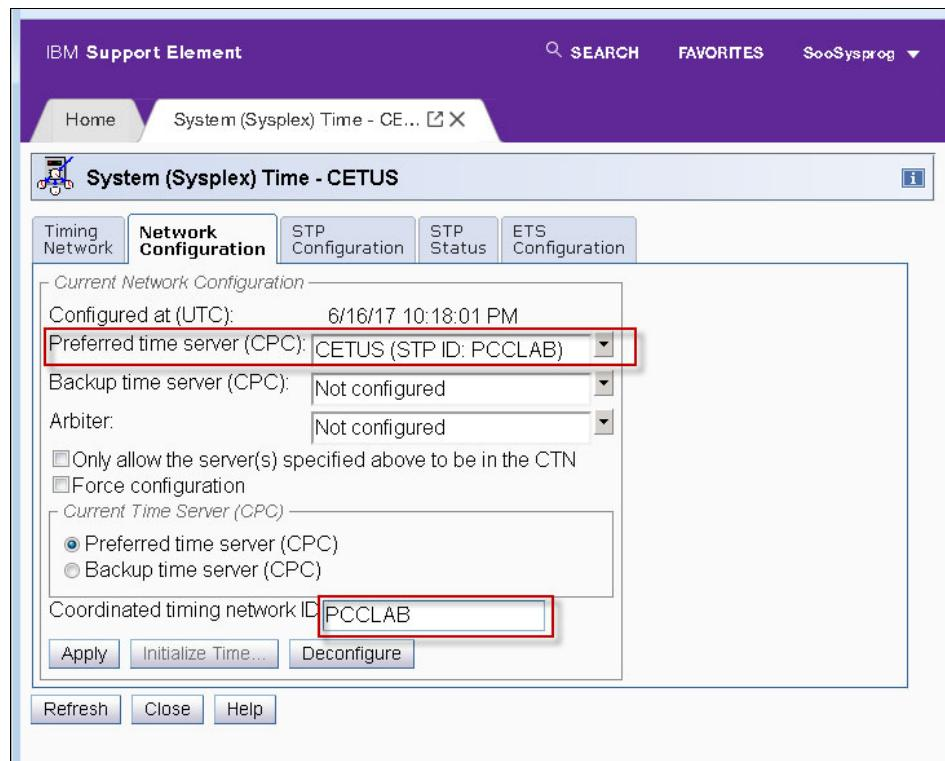

Figure 5-43 System (Sysplex) Time: Network Configuration
16. Click the Network Configuration tab to display or set the role for this CPC. In this example CETUS has been set as the Preferred Time Server (PTS) for the current CTN. (Figure 5-43).